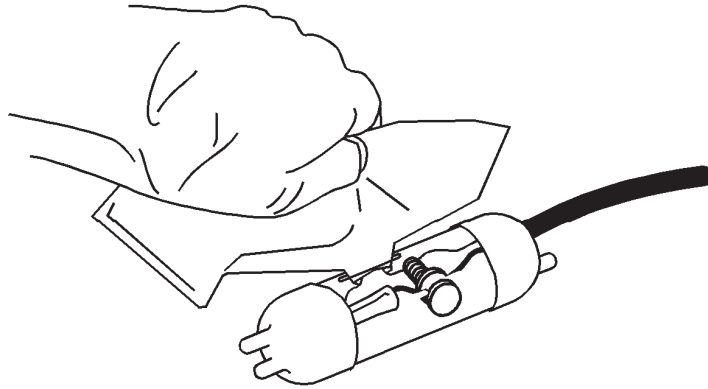

Figure 12. Pouring Q Compound
11. Once the mixture feels warm, immediately cut one corner and slowly fill the plastic sleeve. Stop just short of filling the entire sleeve. **Do not overfill.** [Figure 12]